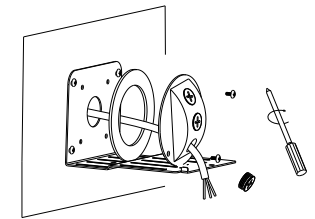

Figure 15
4. Pass wires through rubber ring and junction box, align with holes and lock junction box. (Figure 15)